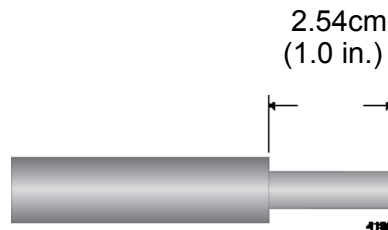

Figure 34. Stripping the Grounding Wire
1. Strip 2.54cm (1.0 in.) of insulation from the end of the solid grounding wire with a wire insulator stripper. Refer to Figure 34.